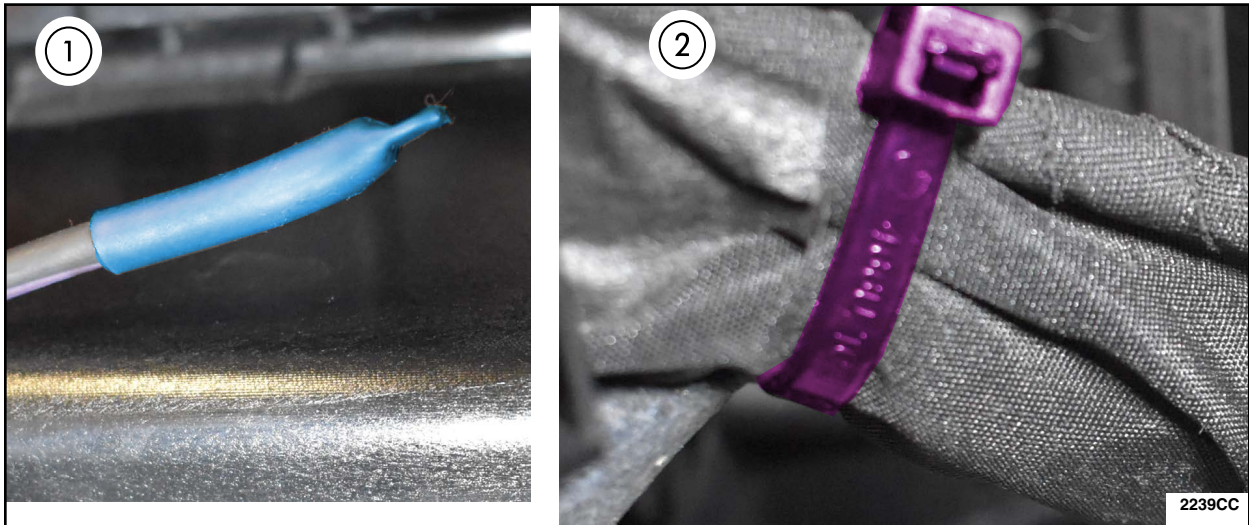

FIGURE 25
30. Cut terminal end off of the old harness. Add Dual Wall Heat Shrink tubing to cover the open end of the wire and secure with tape. Using a zip tie, attach old harness to new harness. See Figure 25.